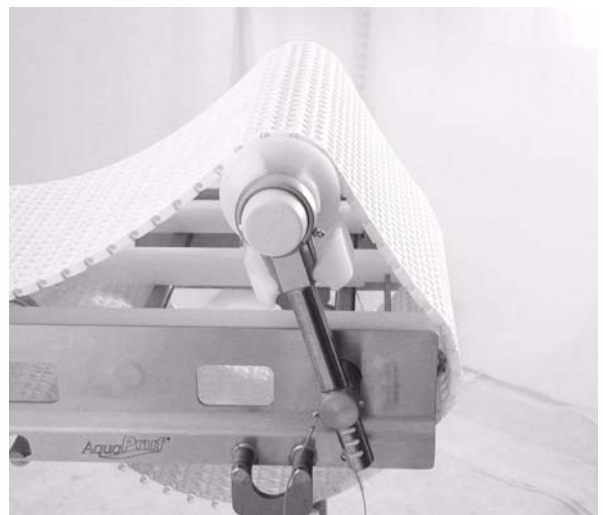

Figure 57
1. Tip up idler tail assembly (Figure 57).